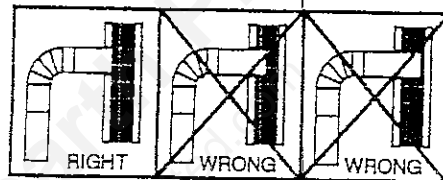

Fig. 8
4. The pipe cannot extend into the chimney flue. (Fig. 8)